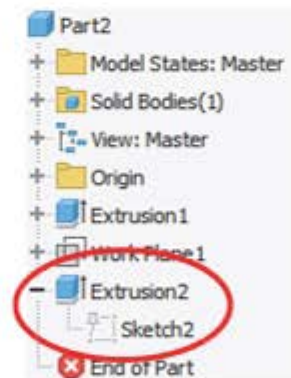

Figure 5–57
2. To create a new feature, you are required to reuse a sketch that was created for **Extrusion2**, as shown in Figure 5–57. Is this possible? If so, which option would you use?